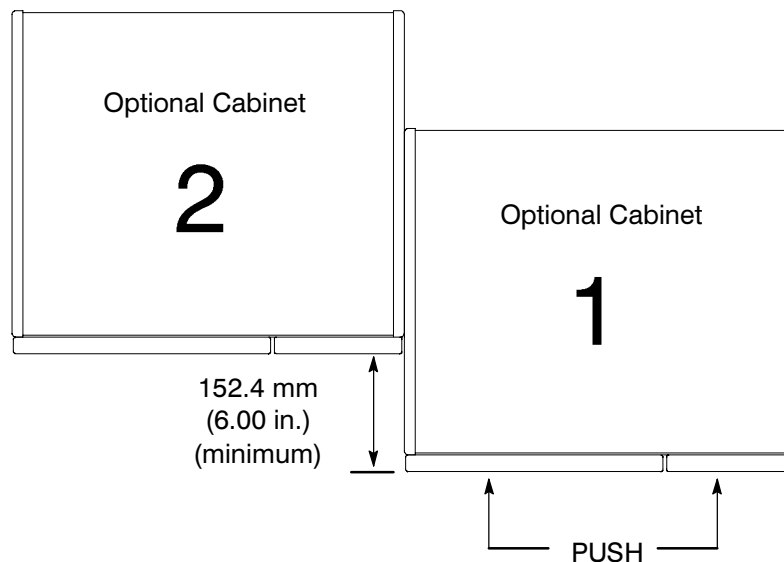

Figure 11. Preparing to Join Component Cabinets
3. Roll cabinet #2 to the position shown in Figure 11.